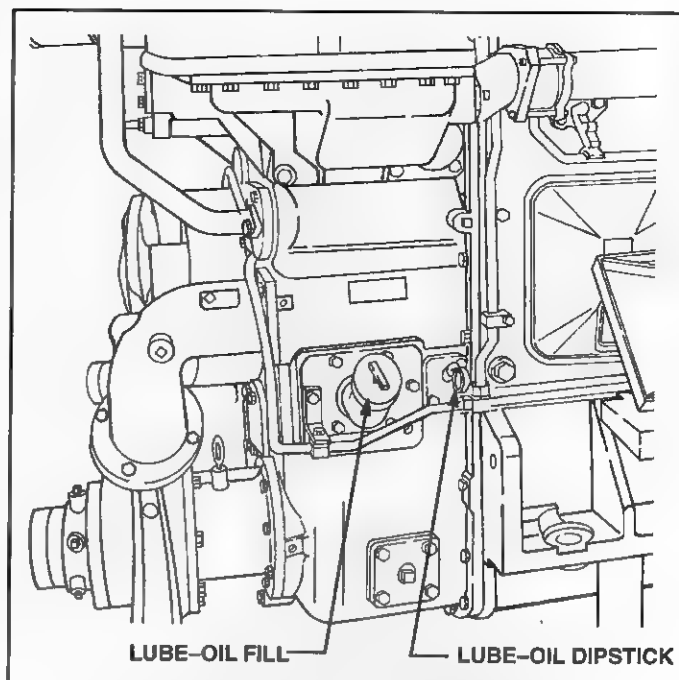

FIG. 30. DIESEL ENGINE LUBRICATING-OIL DIPSTICK AND FILL. E-32795A.
2. Engine Lubricating–Oil Dipstick – Located on both sides of the engine near the lubricating–oil fill (Fig. 30). The stick is marked FULL and LOW. Proper level with the engine idling is between FULL and LOW.